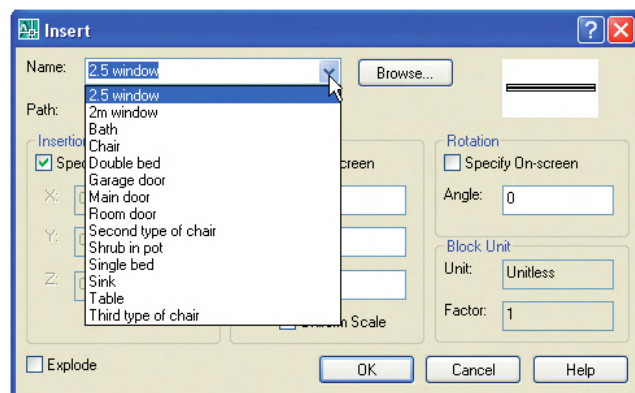

Fig. 9.7 The **Insert** dialog with its **Name** popup list displaying the names of all blocks in the drawing
1. Left-click the **Block** tool icon in the **2D Draw control panel** or the **Insert Block** tool in the **Draw** toolbar (Fig. 9.6). The **Insert** dialog appears on screen (Fig. 9.7). From the **Name** popup list select the name of the block which is to be inserted, in this example the **2.5 window**.